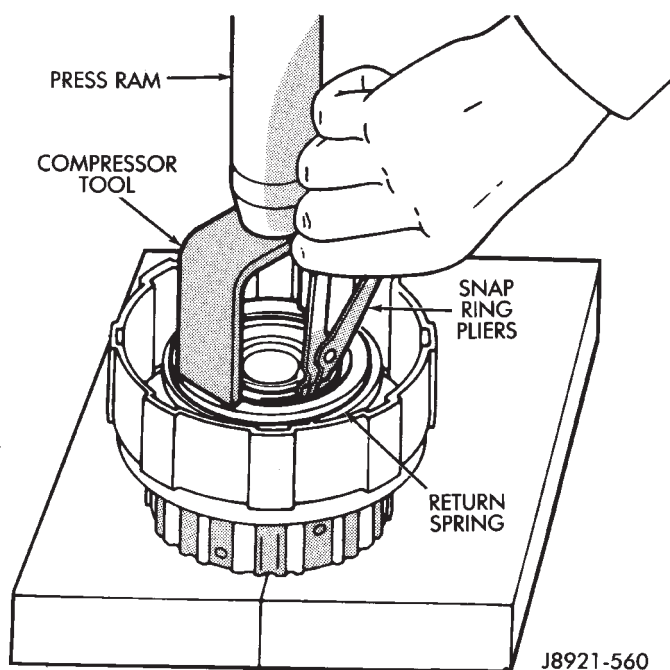

Fig. 7 Removing Piston Return Spring
(9) Compress clutch piston return springs with Compressor Tool 7538 and remove clutch piston snap ring (Fig. 7).
(10) Remove compressor tool and return spring.
(1) Lubricate and install replacement O-rings on clutch piston.
(2) Install clutch piston in drum and install return springs on piston.
(3) Compress piston return springs with Tool 7538 and install snap ring (Fig. 7). Be sure snap ring end gap is not aligned with spring retainer tab.